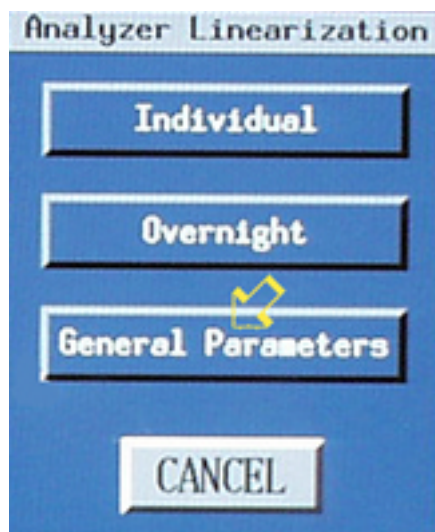

Figure 5
- 112 On the “Analyzer Linearization” panel, click on the “General Parameter Setup” button. See the arrow in Figure 5.